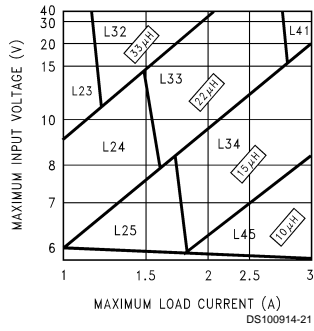
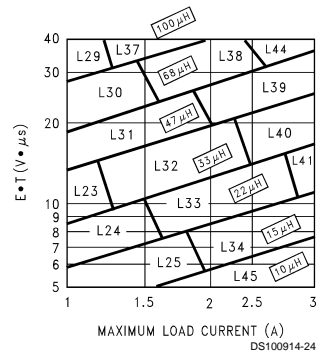

FIGURE 3. LM2676-3.3
FIGURE 6. LM2676-ADJ
Step 3: Determine the inductor required by using one of the four nomographs, *Figure 3* through *Figure 6*. Table 1 provides a specific manufacturer and part number for the inductor.
Step 5: Determine an input capacitor from Table 4 for fixed output voltage applications. Use Table 2 to find the specific capacitor type. For adjustable output circuits select a capacitor from Table 2 with a sufficient working voltage (WV) rating greater than $V_{in\ max}$, and an rms current rating greater than one-half the maximum load current (2 or more capacitors in parallel may be required).
Step 3: Use the nomograph for the 3.3V device, *Figure 3*. The intersection of the 16V horizontal line ($V_{in\ max}$) and the 2.5A vertical line ($I_{load\ max}$) indicates that L33, a 22 μ H inductor, is required.
Step 3: To use the nomograph for the adjustable device, Figure 6, requires a calculation of the inductor Volt•microsecond constant (E•T expressed in V•μs) from the following formula:
Using Figure 6, the intersection of 27V•μs horizontally and the 2A vertical line (I_{load} max) indicates that L38, a 68μH inductor, should be used.
Important Note: When using the adjustable device in low voltage applications (less than 3V output), if the nomograph, Figure 6, selects an inductance of 22μH or less, Table 6 does not provide an output capacitor solution. With these conditions the number of output capacitors required for stable operation becomes impractical. It is recommended to use either a 33μH or 47μH inductor and the output capacitors from Table 6.